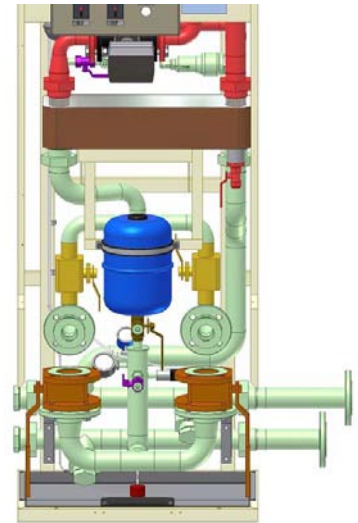

Figure 5.1-10
- Valves V161...V162 open (violet colour in Figure 5.1-10)
- Valve V160 lever down (brown colour in Figure 5.1-10)
- Valves V140...V141 closed (yellow colour in Figure 5.1-10)
- Valves V142...V143 open (orange colour in Figure 5.1-10)